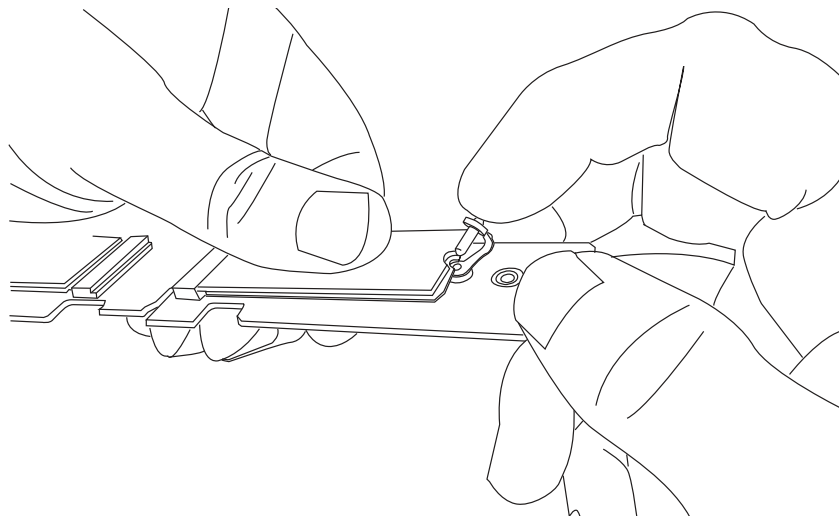

Figure 3-9. Inserting the Standoff Plug
3. Remove the dummy drive from the carrier (Figure 3-9).